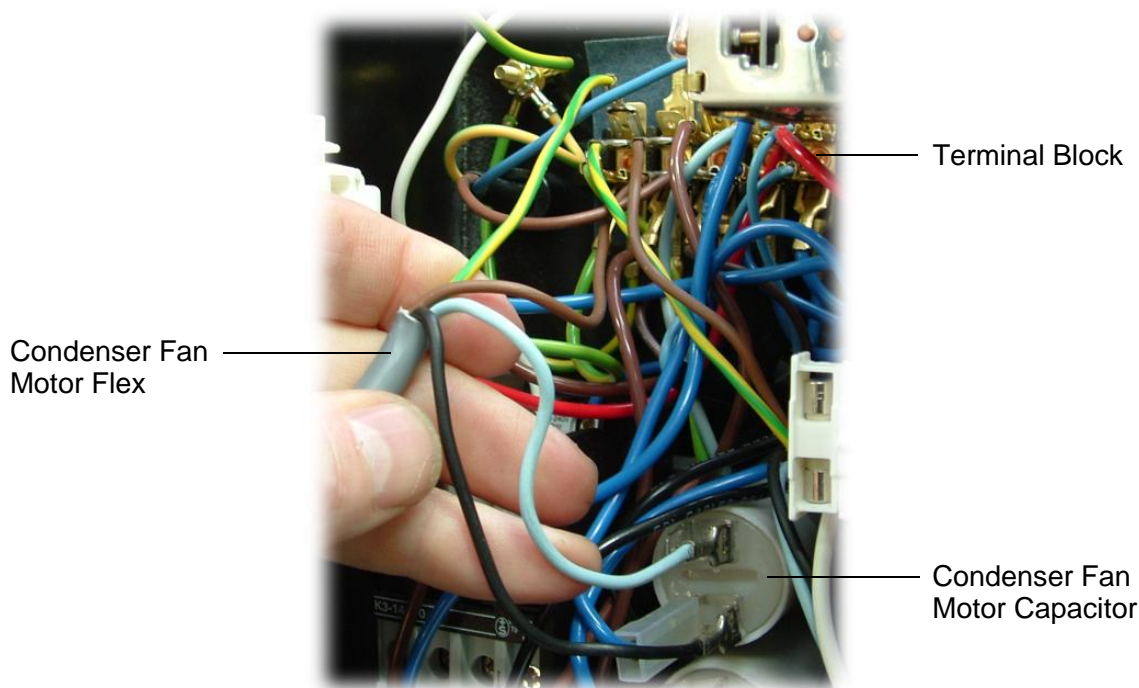

Figure 35: Condenser Fan Motor Wiring
11. Feed the motor flex through the grommet in the back of the controller box and connect the wires to the terminal block and capacitor inside the box (see Figure 35 below).